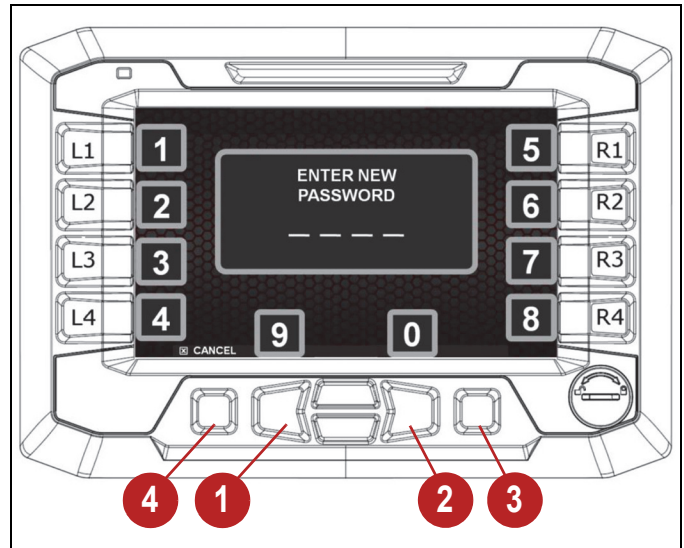

Figure 6-31
1. Press the L1–L4 or R1–R5 switches to select numbers 1–8 as shown on the password screen. Press the left arrow button (1) to select the number 9 or the right arrow button (2) to select the number 0. See Figure 6-31 on page 6-24.
2. Press button (3) to accept the selection.
3. Press button (4) to cancel the password change.